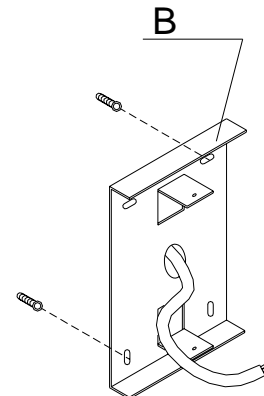

Fig. 2
- Fixer l'étrier mural **B** à l'aide des chevilles fournies. (fig. 2)
- > Fissare la staffa a parete **B** utilizzando i tasselli in dotazione. (fig. 2)
- > Anchor the wall bracket **B** using the screw anchors included in the kit. (Fig. 2)